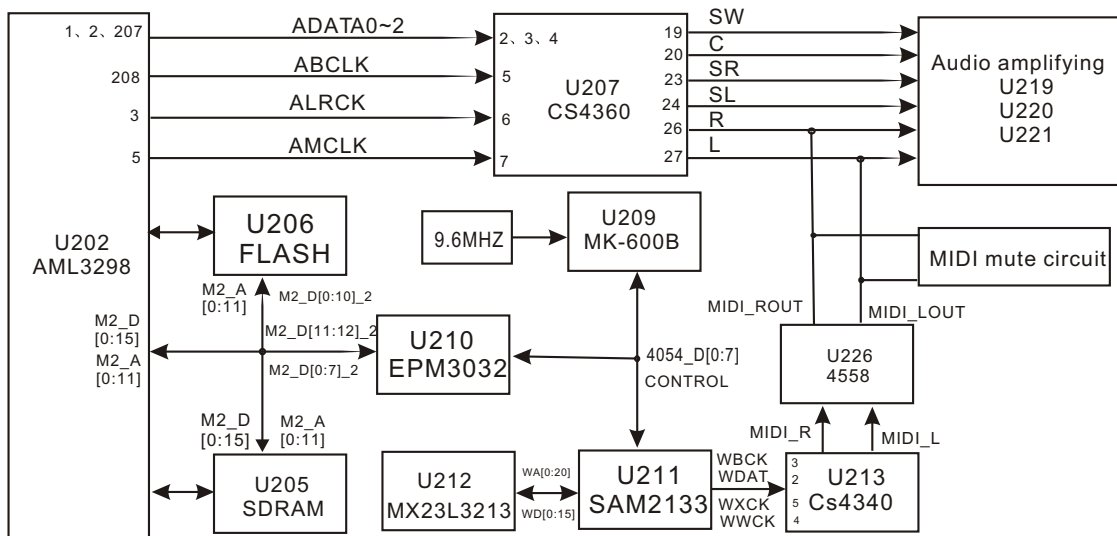

Figure 3.2.13.1 MIDI signal processing circuit block diagram
1. MIDI signal processing block diagram is shown as the following figure 3.2.13.1: